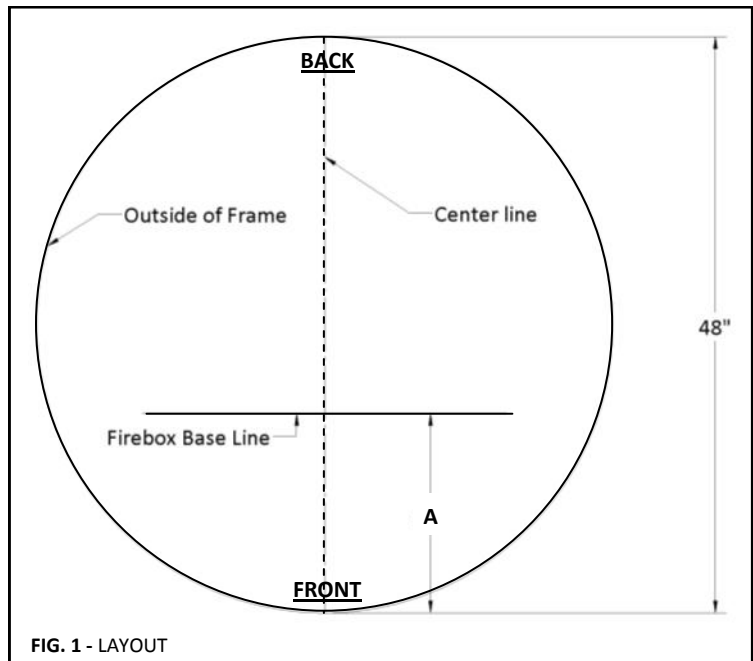

FIG. 1 - LAYOUT
LAYOUT (FIG. 1)
- 3) Refer to the chart below FIG. 1 for the base-line dimension (A). Draw the base line perpendicular to the center line, at the distance from the front of the circle specified in the chart. This line will be aligned with the front edge of the Firebox Base.